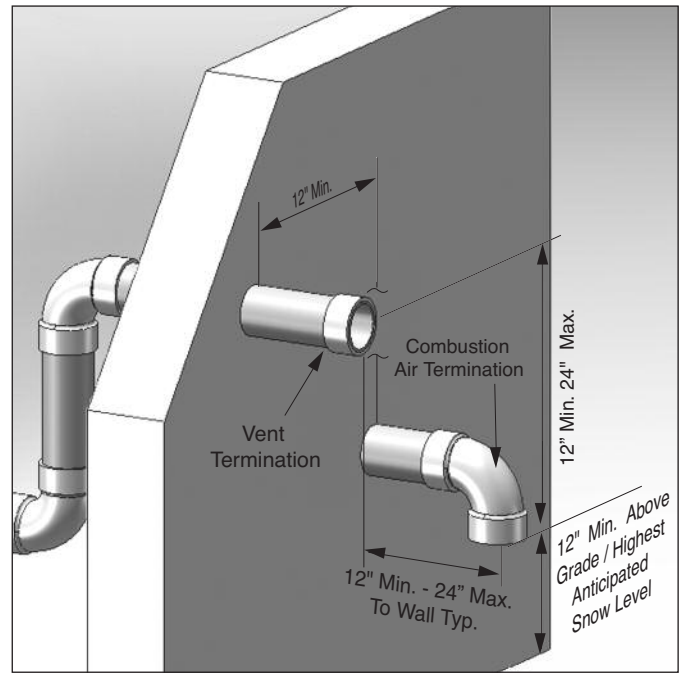

Fig. 9: Direct Vent - Alternate Sidewall Termination of Vent and Combustion Air Piping
- Using coupling as shown in Figs. 9 or 13, page 11 or 12.
- Using coupling as shown in Fig. 9 or 13 page 11 or 12.